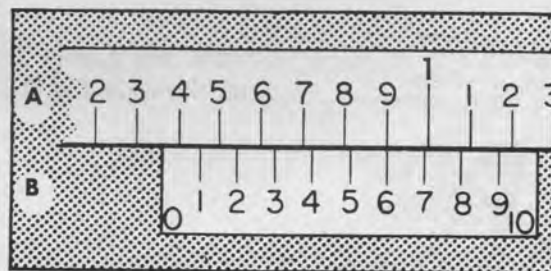

Fig. 7
In fig. 7, the zero point is located between three and four: therefore the jaws have been opened three millimeters plus a fraction of a millimeter. Since the six of the vernier (B) is lined up with the nine on the millimeter scale (A), then the fraction in this case will be six tenths of a millimeter. Adding the sixth tenths of a millimeter to the three millimeters, we now have a total opening between the caliper jaws of three and six tenths of a millimeter.